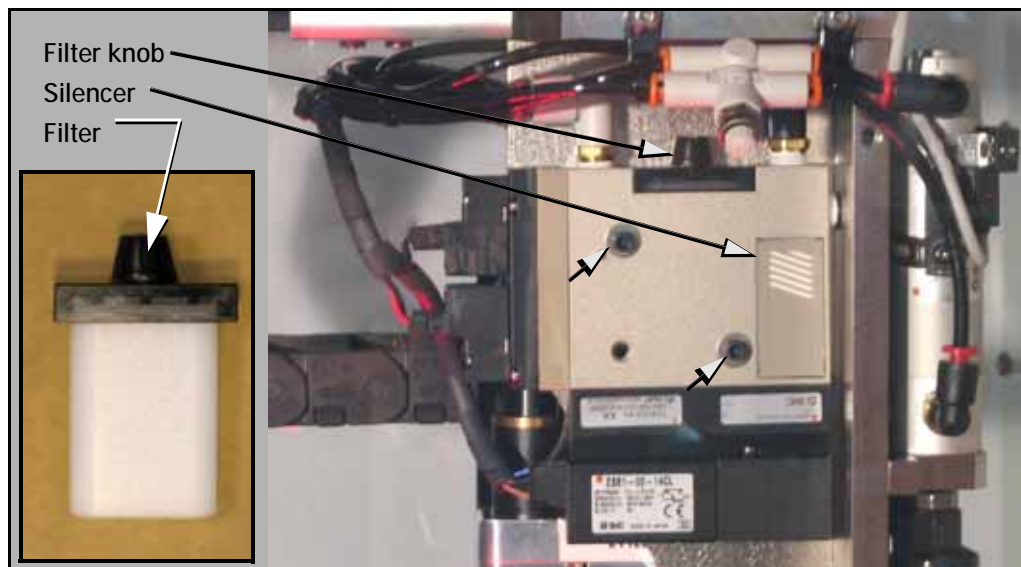

Figure 4-12: Removing the PNP head Vacuum Generator filter and silencer. The two small arrows point to the Mounting screws.
- 1c. Remove the two Vacuum Generator mounting screws with a 7/64 in. hex key and be ready to support it as it falls free. See Figure 4-12 below.